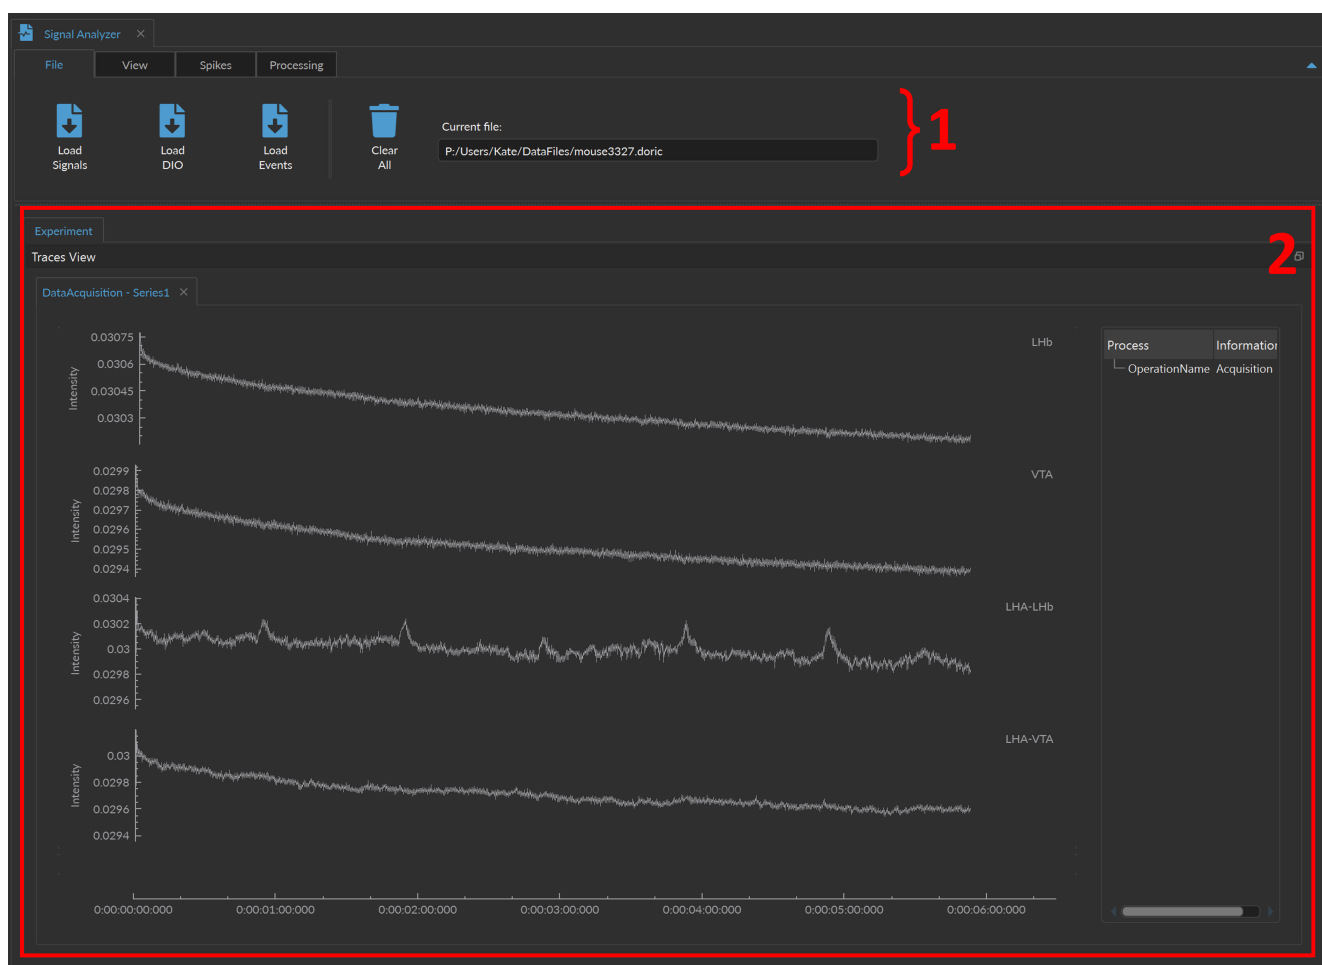

Figure 14.1: Signal Analyzer Module
The **Signal Analyzer module** (Fig 14.1) is separated into two main sections.
1. The **Control section** (Fig. 14.1, 1) contains all controls, separated into the **File**, **View**, **Spikes** and **Processing** tabs.
2. The **Trace View** (Fig. 14.1, 2) contains all currently displayed graphs as well as timestamped notes.